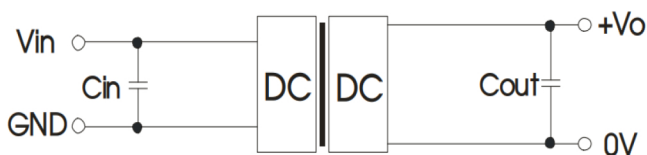

Figure 1: Application circuit
1. Typical application: If further reduction of input and output ripple is required, a capacitor filter network can be connected at the input and output ends. The application circuit is shown in Figure 1. However, suitable filter capacitors should be selected. If the capacitance is too large, it may cause overcurrent or poor startup of the power supply. For each output, while ensuring safe and reliable operation, the recommended capacitance load values are shown in Table 1.